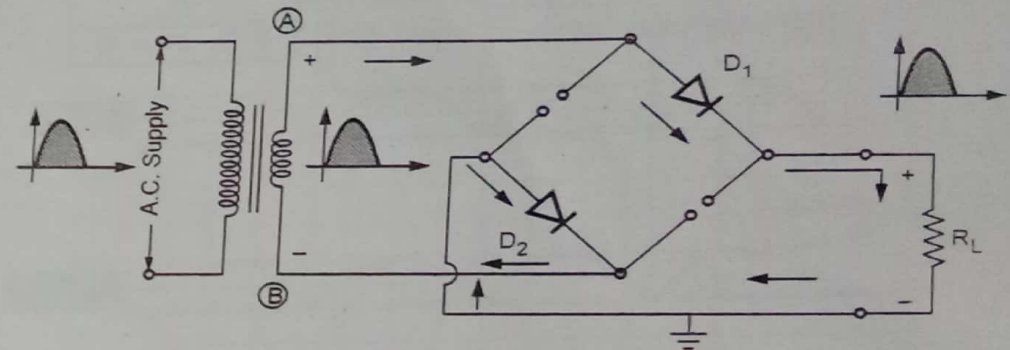

Fig. Q.27.2 Current flow during positive half cycle
• Consider the positive half of ac input voltage. The point A of secondary becomes positive. The diodes D₁ and D₂ will be forward biased, while D₃ and D₄ reverse biased. The two diodes D₁ and D₂ conduct in series with the load and the current flows as shown in Fig. Q.27.2.